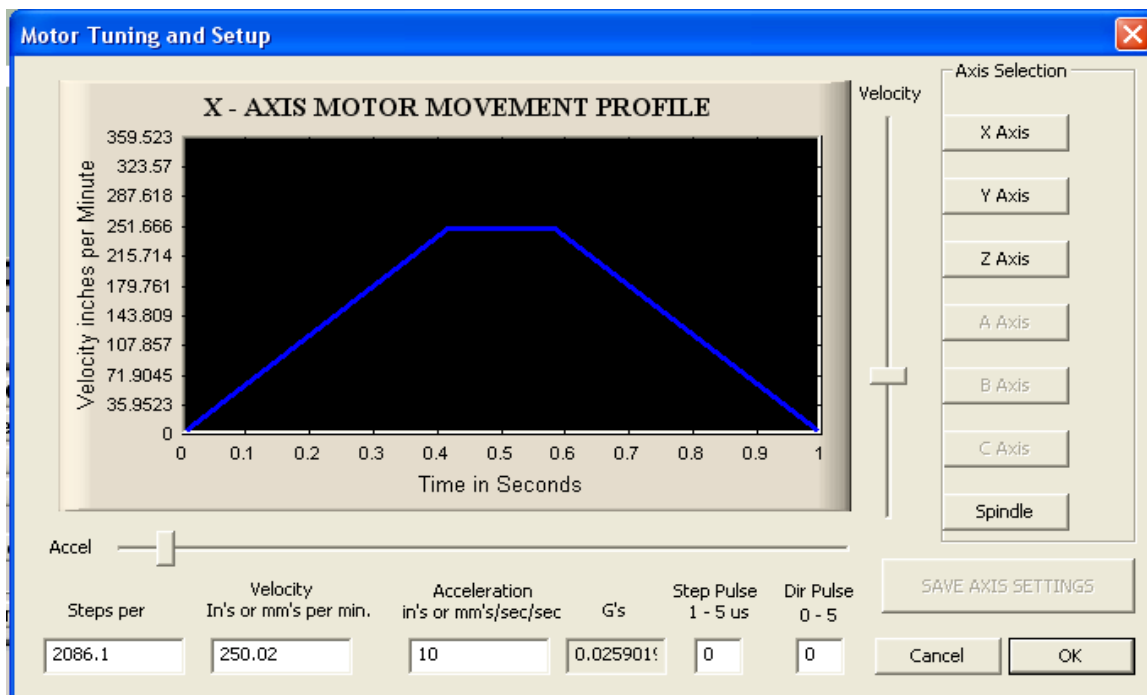

Figure 8: Steps/in, speed and acceleration used for X-axis on a 5'x10' rack and pinion table.
1. Make sure pin #15 is setup as per Figure8. Click **Config->Ports&Pins->Inputs**, and configure pin 15 as the "Probe" input, making it Active Low.